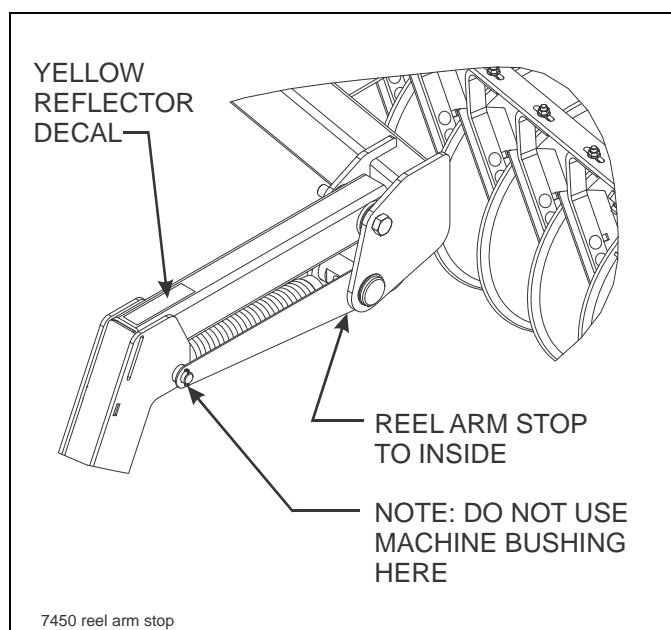

Figure 3-39: Yellow Reflector Decal Placement
15. Attach yellow reflector decals on outer arms (**See Figure 3-39.**) Decals are located in the manual tube. Reflector decal locations also shown in **Figures 2-1 thru 2-6.**